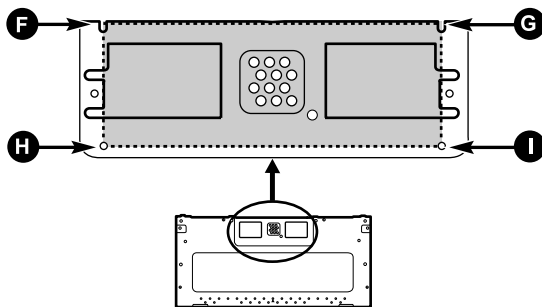

Figure 28
1. Place the mounting plate against the rear wall as described in step 5 item 1 (page 15).
2. Using a pencil, put dots through slots F and G, and through holes H and I. Remove the mounting plate and draw lines extending through the points. This will give the location and size of the box cutout for the rear wall duct. See Figure 28.